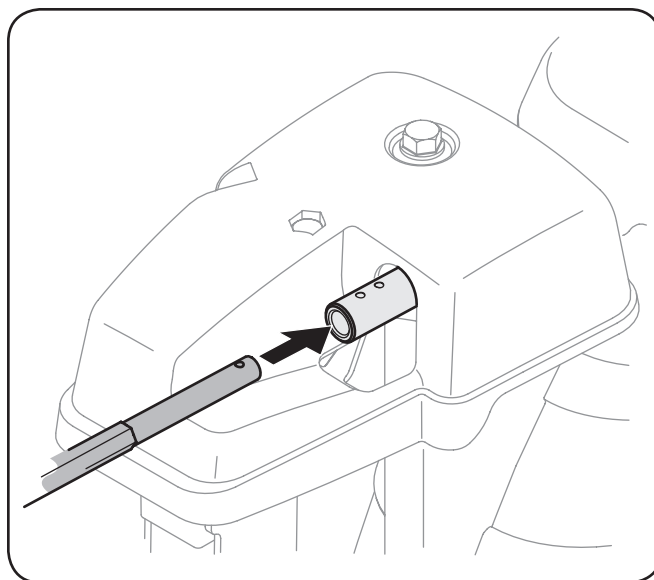

Figure 3-6
2. Insert round end of the chute control rod (hole pointing upward) as far as possible into chute control assembly. See Fig. 3-6.